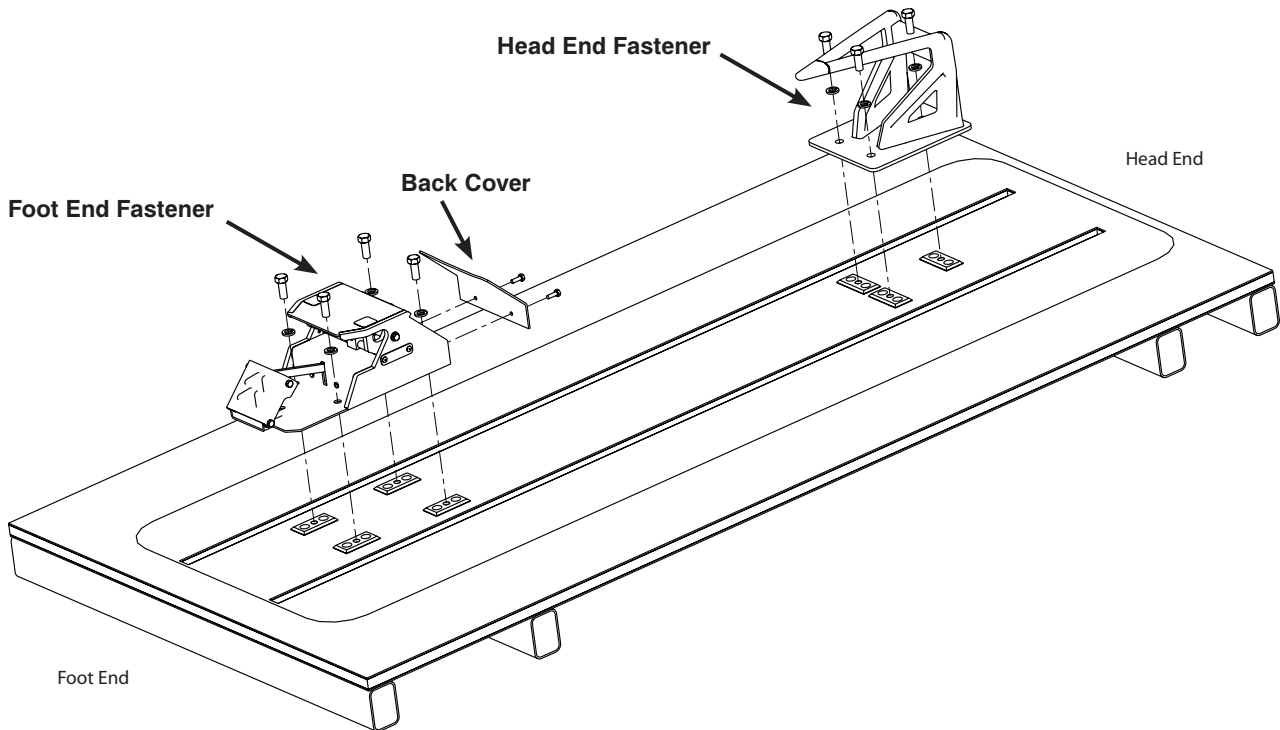

Figure 4: Head End and Foot End Fastener - Floor Plate Installation
1. Remove the back cover on the foot end fastener. Mount the foot end fastener on the four floor plates and secure with 1/2"-13 hex head cap screws and lock washers as shown in Figure 4. Secure the back cover back onto the foot end fastener.
2. Mount the head end fastener on the three floor plates and secure with three 1/2"-13 hex head cap screws and lock washers as shown in Figure 4.